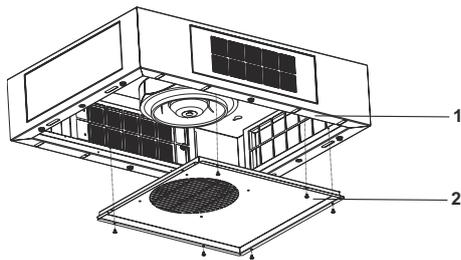

Fig. 15
5. Install the motor cabin cap with 6 screws on the motor box (Fig. 15).